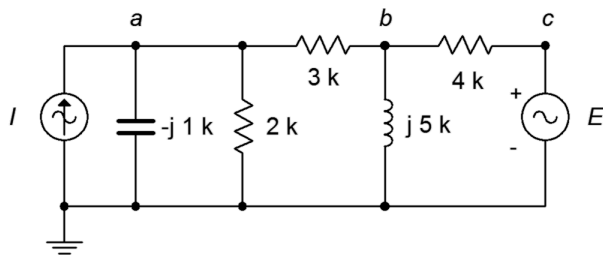

Figure 5.15
29. Use Superposition to determine v_{ab} in the circuit of Figure 5.15. $I = 10\text{E}-3\angle 0^\circ$ and $E = 12\angle 0^\circ$.
30. Use Superposition to determine the capacitor current in the circuit of Figure 5.15. $I = 5\text{E}-3\angle 0^\circ$ and $E = 18\angle 120^\circ$.